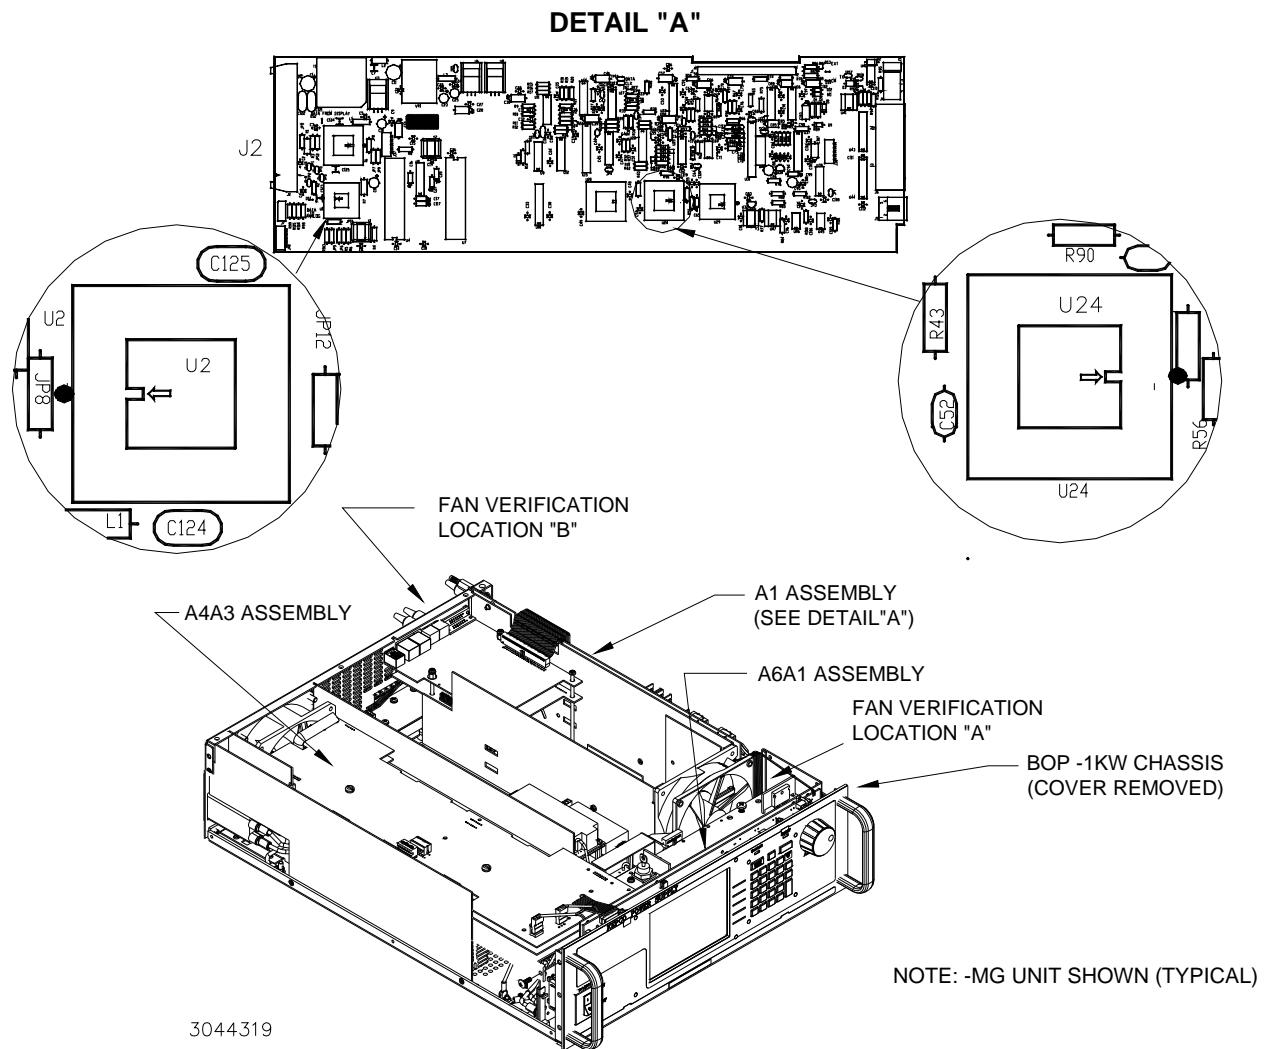

FIGURE 2. ASSEMBLIES A1 AND A6A1 LOCATIONS AND DIGITAL BOARD A1 PROM LOCATIONS
3.3 DIGITAL BOARD A1 PROM U2 AND U24 REPLACEMENT (SEE FIGURE 2)
1. On Digital board A1, locate PROM, U24 (see Figure 2).
6. Insert the PROM into the socket, insuring the dot on the chip is oriented as shown in Figure 2.
9. Insert the PROM into the socket, insuring the dot on the chip is oriented as shown in Figure 2.
1. Power up the unit and hold a piece of paper near the vent holes at the top cover near the front panel (see Figure 2, Fan Verification Location "A"). Verify that the paper is suctioned down towards the cover.
2. Hold a piece of paper to the rear panel (see Figure 2, Fan Verification Location "B") and verify the paper flutters indicating air is being expelled from the unit.